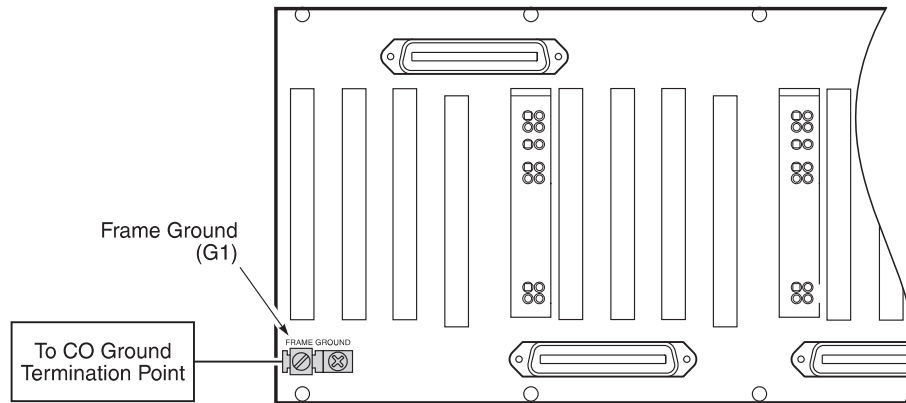

Figure 4. *Connecting the Frame Ground (Protection Ground)*
- 3 Connect the frame ground (Figure 4):